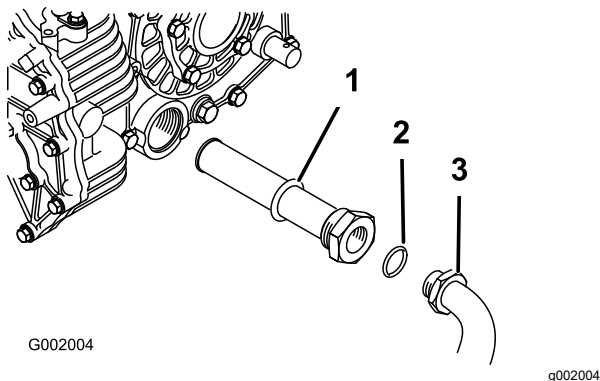

Figure 51
5. Remove the hydraulic hose and 90° fitting (**Figure 51**).